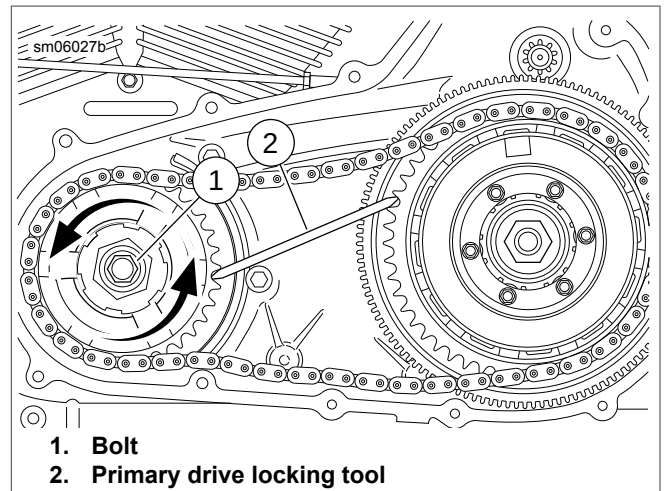

Figure 5-8. Removing Engine Compensating Sprocket Bolt
12. See Figure 5-8. Place the PRIMARY DRIVE LOCKING TOOL (Part No. HD-47977) between the teeth of the engine and clutch sprockets as shown.